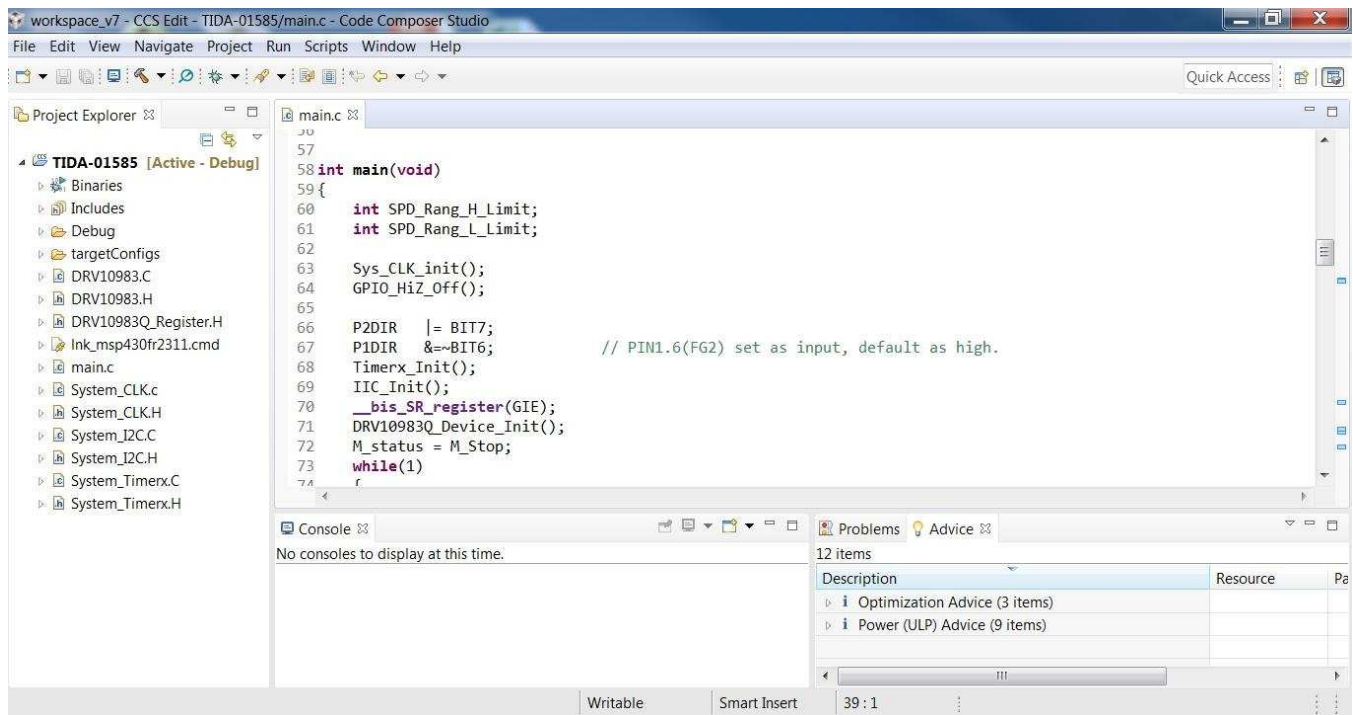

图 9. Build and Debug Using Code Composer Studio™ From TI
3. Build the project by clicking the *Build* button (hammer icon), which if run successfully, appears as follows in 图 9.
4. Click the *Debug* button (bug icon) as shown in 图 9.